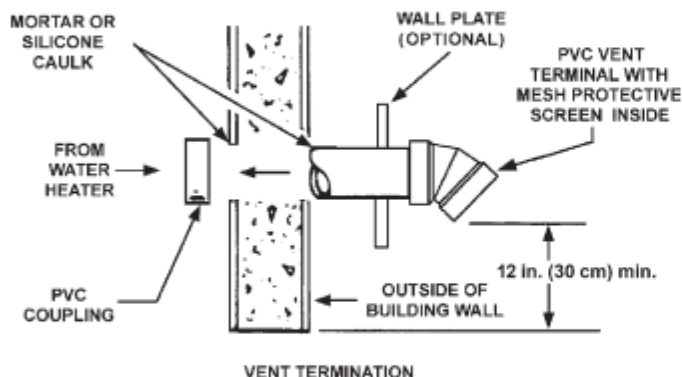

Figure 16. Sidewall Vent Termination
5. Slide the pipe through the wall and insert into the coupling on the other side of the wall, making sure that the vent terminal ends up pointed in the correct position. See *Figure 16*.
It is recommended that the completion of the venting system start at the blower assembly and run to the coupling on the inside wall of the vent terminal. See *Figure 16*.
The preferred orientation of Vent Pipe Assembly #1 (Condensate U-Assembly) is shown in *Figure 16*. However this assembly may be rotated to a different orientation as needed for the specific installation requirements. Note the rotational orientation of each part by marking a line several inches long across the joints. The long tube of Vent Pipe Assembly #2 should be approximately vertical. If it is found that either of the two pieces of pipe in Vent Pipe Assembly #2 are too long for proper fit-up, then remove as little material as possible to improve the fit-up. Keep in mind that the pipes will insert slightly further into the elbows when cement is applied as it acts as a lubricating agent. The vertical distance from the bottom of the Condensate U-Assembly to the floor that supports the water heater should be approximately 0.25" (0.64 cm). See *Figure 25* (page 28). Disassemble the parts and cement back together using the alignment marks. After the cement dries, attach the assembly to the blower and the water heater exhaust using the supplied rubber boots and hose clamps.